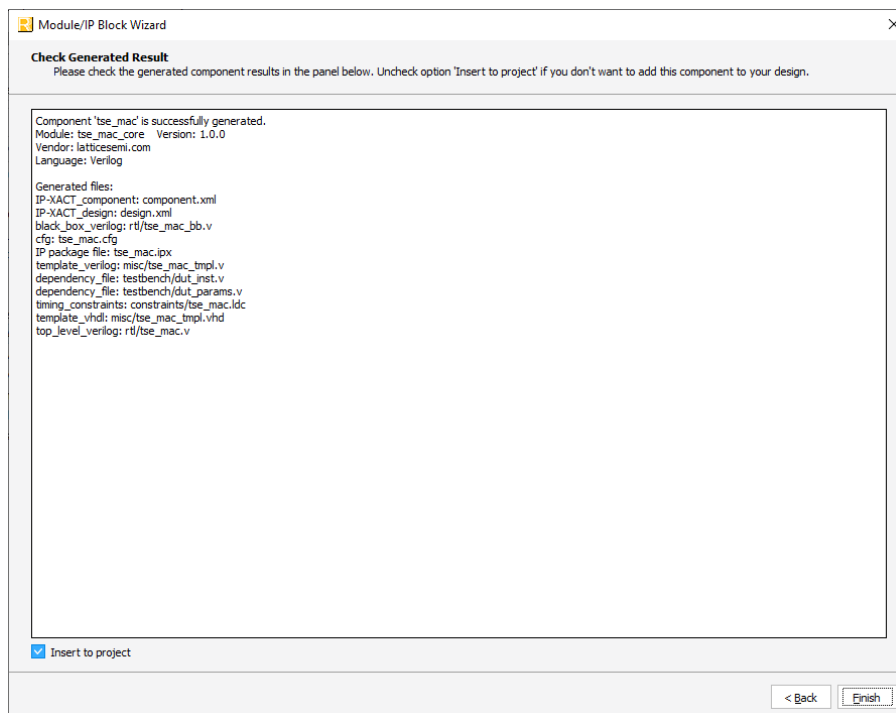

Figure 3-3. Check Generating Result
4. Click **Generate**. The **Check Generating Result** dialog box opens, showing design block messages and results as shown in Figure 3-3.